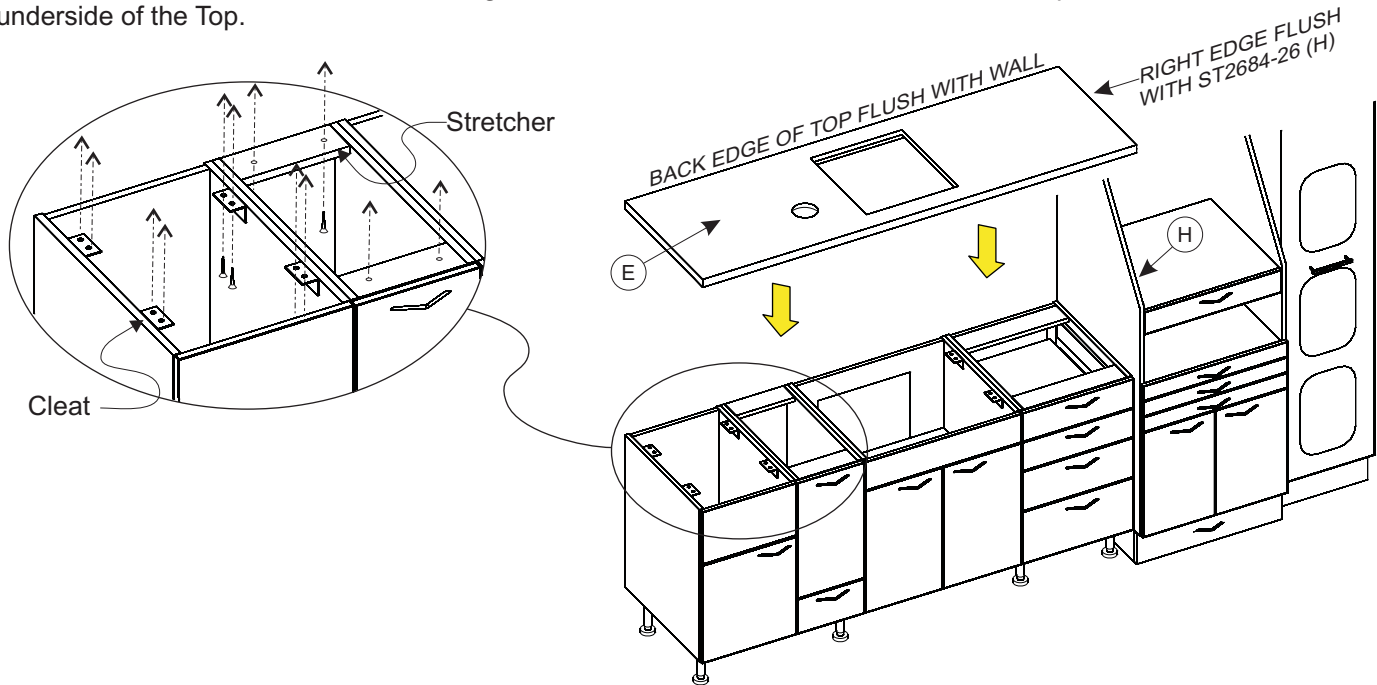

Figure 10
Place Top (E) onto cabinets with the back edge flush with the wall and the right edge flush with the ST2684-26 Sterilization Cabinet (H) (see Figure 10). Secure the Top (E) to the cabinets by using #8 x 1-1/2" flat head screws. Screw through each Cleat and each Stretcher into the buildups on the underside of the Top.